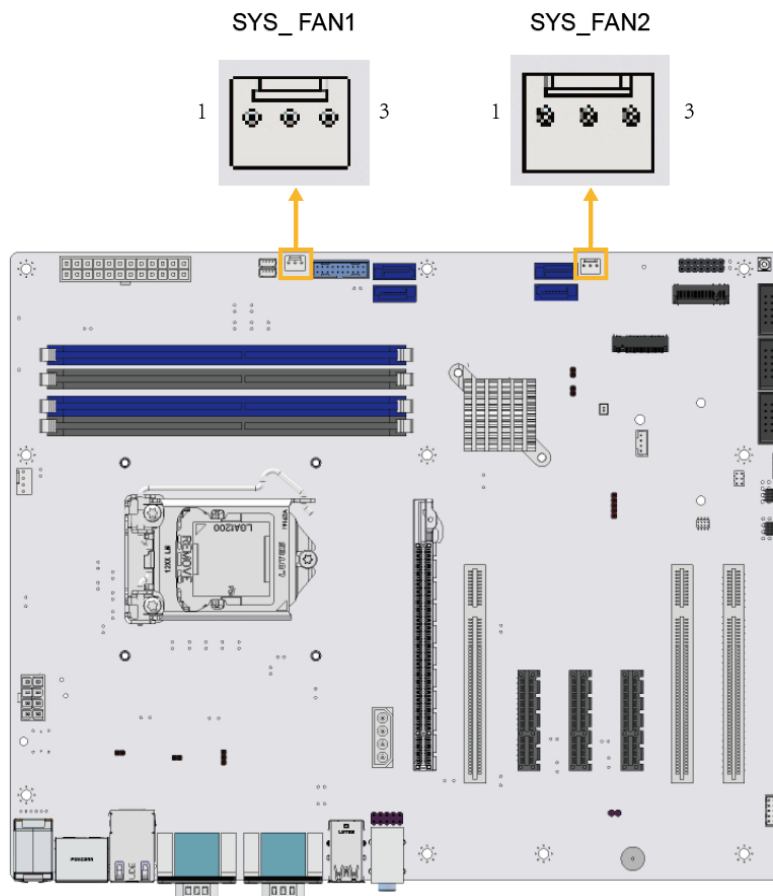

Figure 3-16: System Fan Connector Locations
- CN Location:** See Figure 3-16